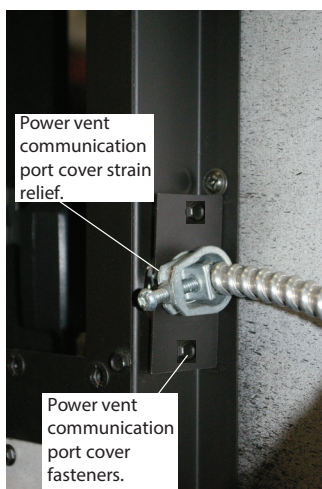

Figure 12e. Installing Conduit Port Cover Plate.
**Step 4.** Place the cover plate on the Conduit, then tighten the strain relief nut onto the threads protruding through backside of cover plate, **Figure 12e**.
**Step 6.** Re-Install the communication harness Port cover, **Figure 12e**. (*Philips head screwdriver required*).
**Step 7.** Tighten Power Vent Strain relief adjustment screw, Figure 12e.